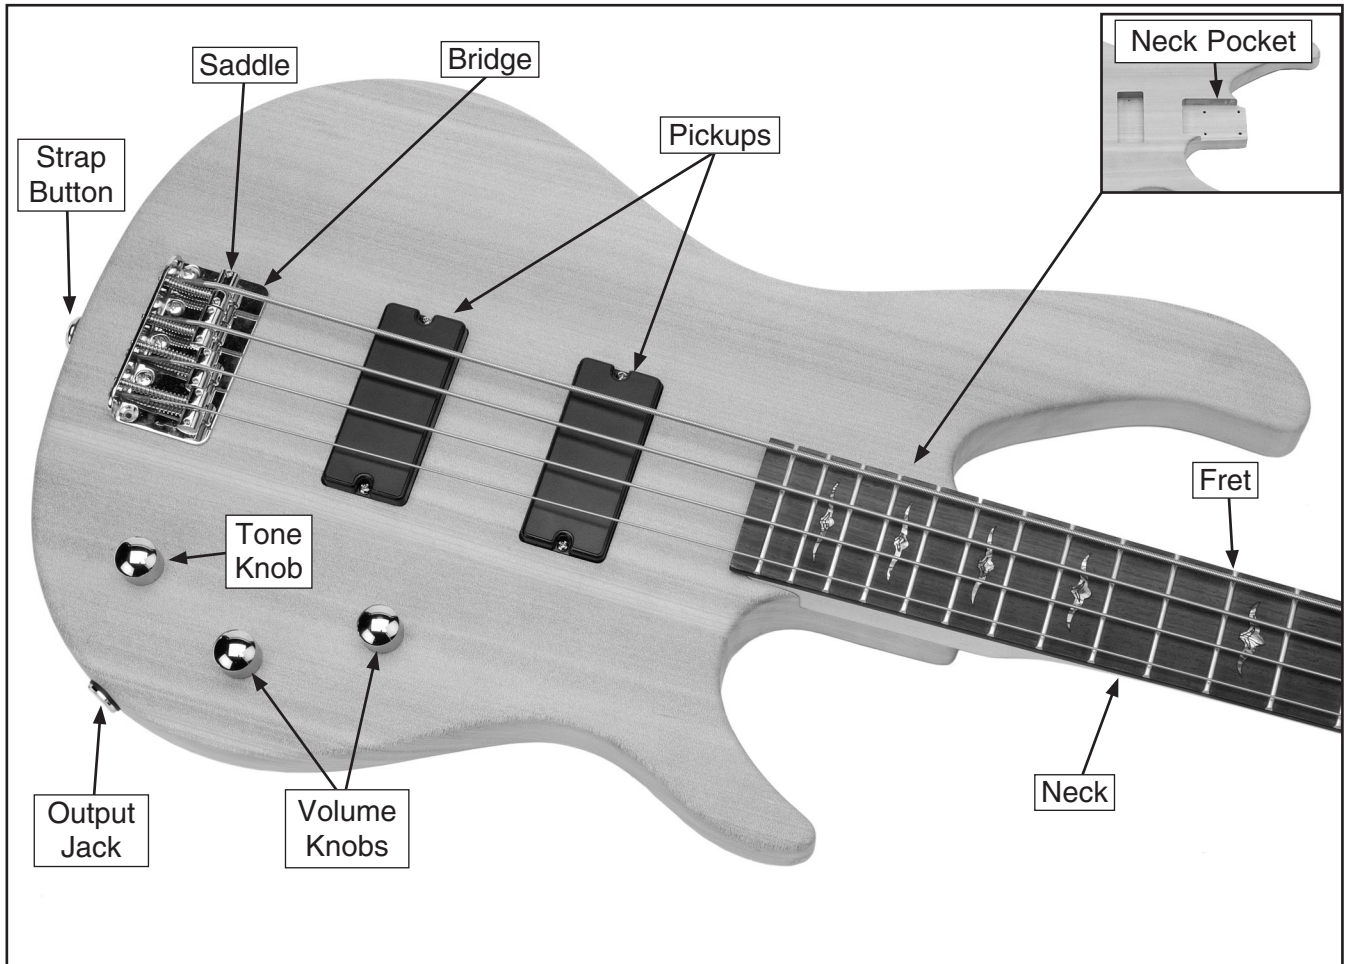

Figure 4. Model H8180/H8181 controls.
1. Mask off the neck pocket (**Figure 4**). Press the masking tape tight against the edges of the pocket so the finish does not seep under the tape.